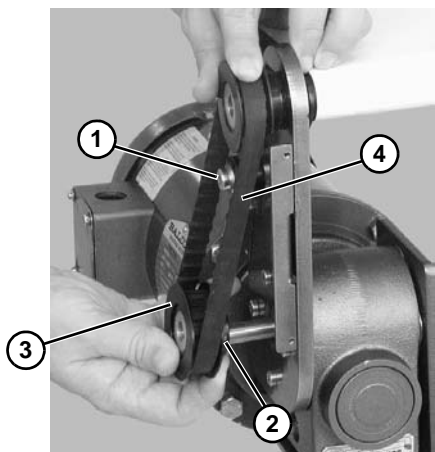

Figure 25
If drive pulley (Figure 25, item 2) is replaced, wrap timing belt around drive pulley and complete step 3.
2. Loosen tensioner (**Figure 25, item 1**).
3. Loosen drive pulley set screws (**Figure 25, item 2**). Remove drive pulley (**Figure 25, item 3**) and timing belt (**Figure 25, item 4**).